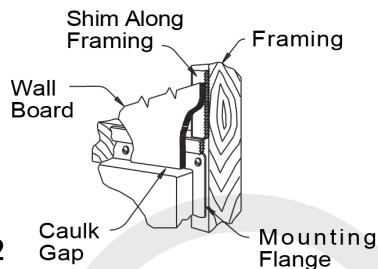

Figure 2
8. Finish wall board as detailed in Figure 2.